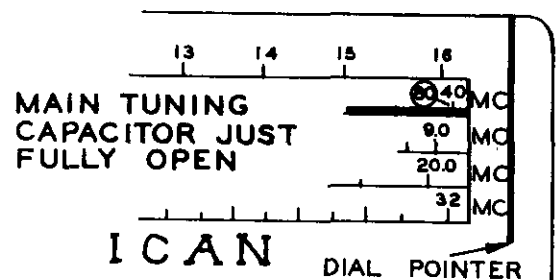

Figure 30
- (✓) Loosen the setscrew in the dial string pulley on the main tuning capacitor. With the main tuning capacitor just fully open, set the dial pointer as shown in Figure 30 and retighten the setscrew. Check to make certain that this alignment is correct or the receiver's calibration will be incorrect.